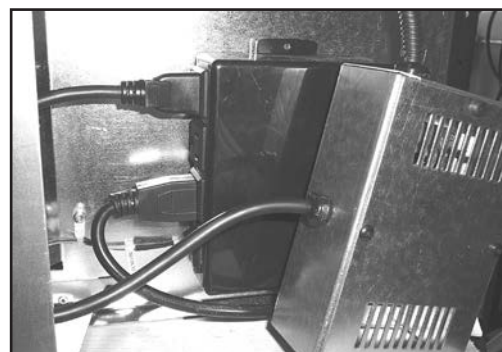

Figure 17: Plugging PVK into Electric Box.
12. Connect the wires to the fan, vacuum switch, and ground according to the wiring diagram in Figure 17. Secure the green ground wire as shown in Figure 9. Route the wires as shown in Figure 10 to prevent them from getting pinched.
17. Plug the power cord from the PVK Control Box into the top outlet of the Electric Box on the side of the unit as shown in Figure 17.